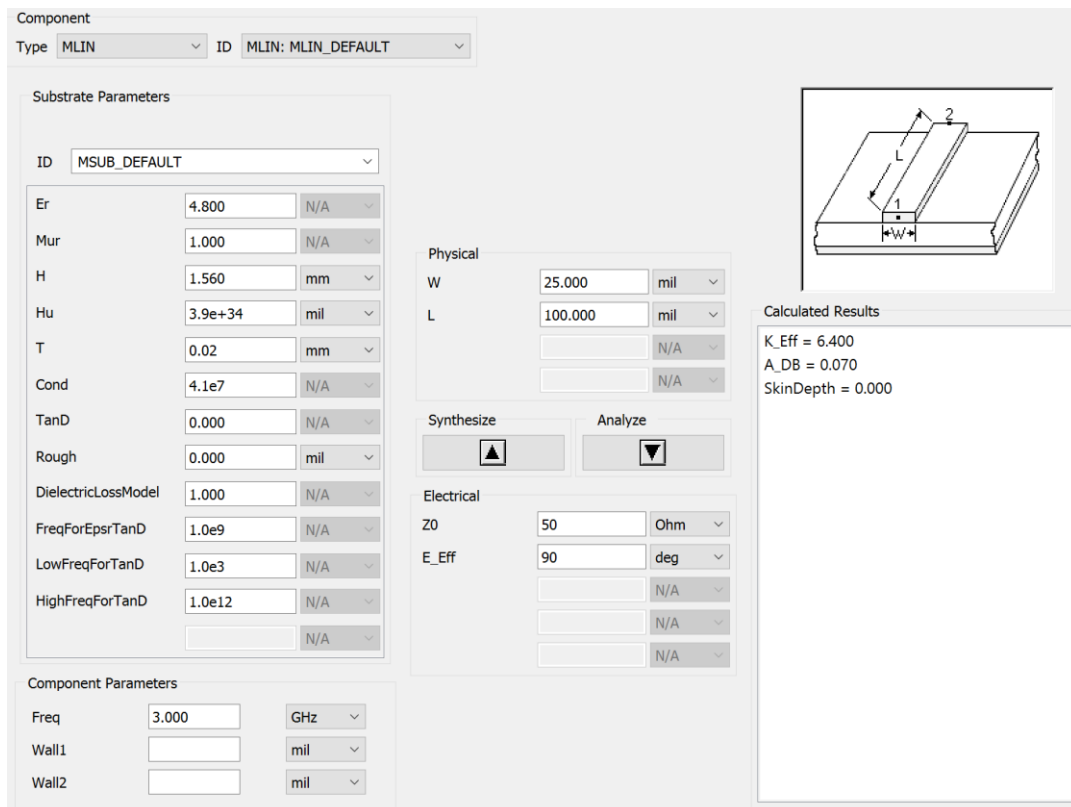

Figure 5: Calculate Microstrip Line Impedance
3. **Calculate dimensions for 50 Ohm microstrip line:** Click 'Tools -> LineCalc -> Start LineCalc', and input substrate parameters as in Fig. 5 below,